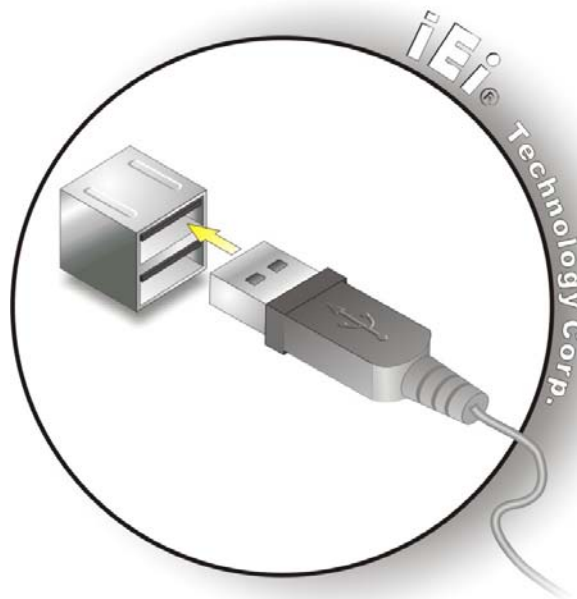

Figure 3-32: USB Device Connection
Step 2: Align the connectors. Align the USB device connector with one of the connectors on the AFL2-10A-N28. See **Figure 3-32**.